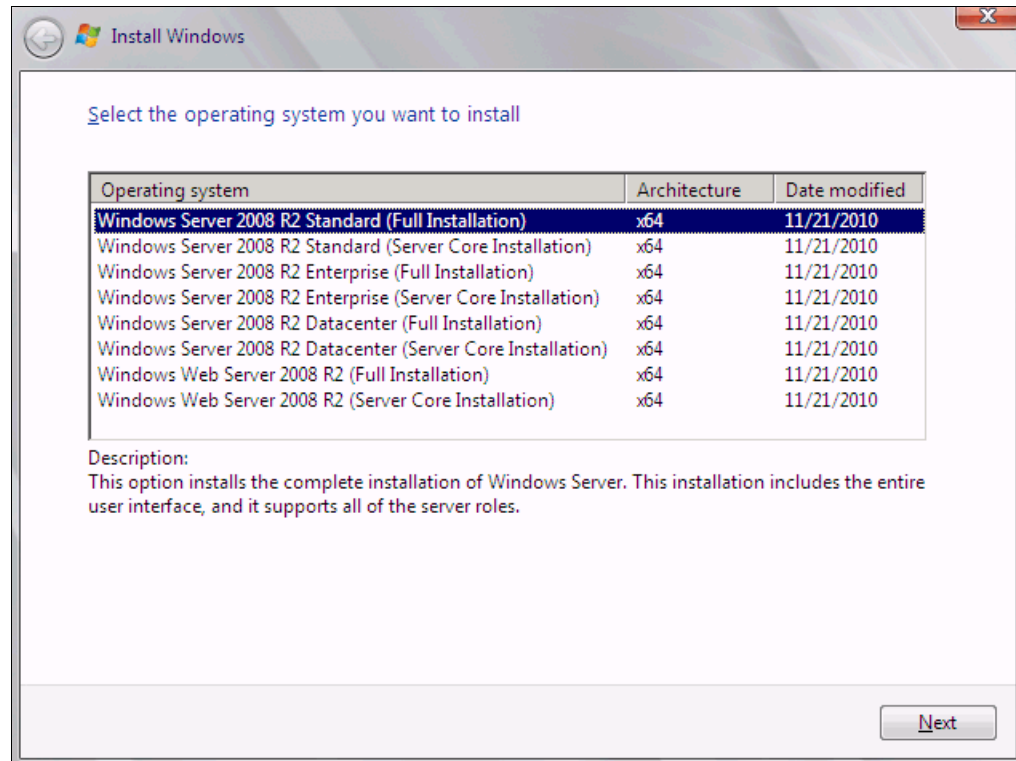

Figure 9-193 Selecting the operating system
9. In the Install Windows panel (Figure 9-193), select your operating system, and click **Next**.